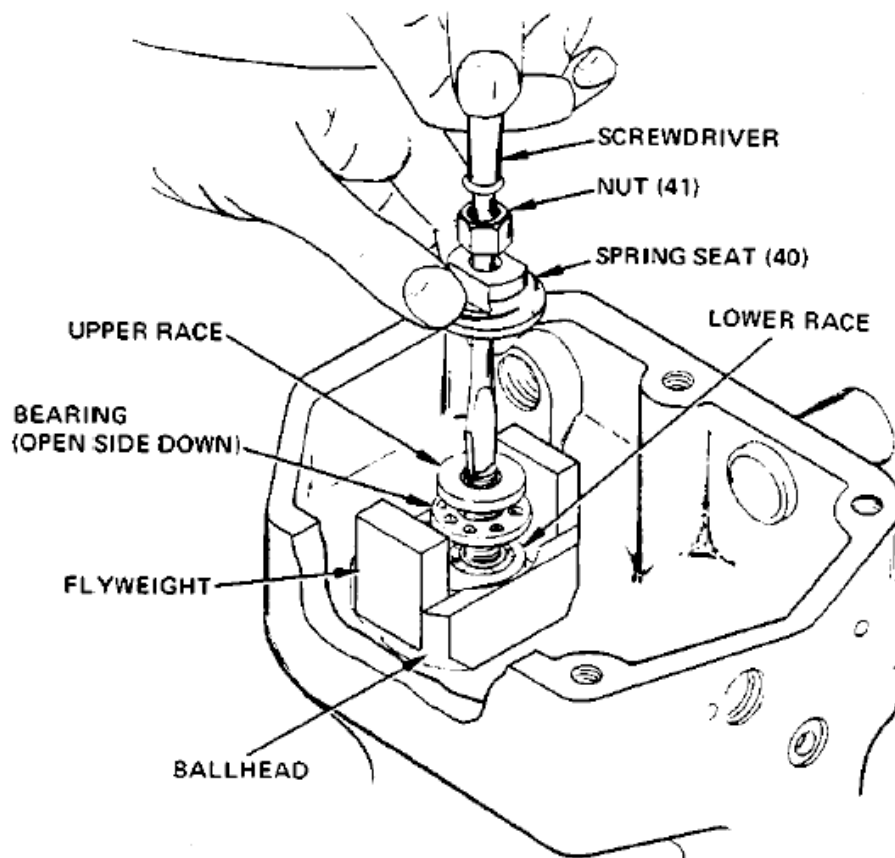
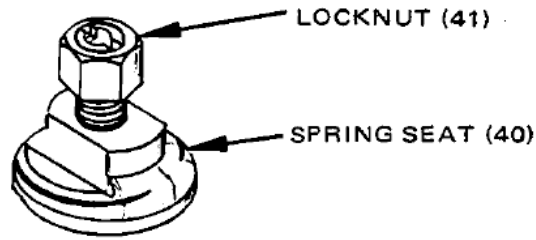

Figure 3-19. Thrust Bearing and Spring Seat Assembly
Figure 3-20. Spring Seat Adjustment
16. Use a screwdriver (Figure 3-19) and guide spring seat (40) and nut (41) onto pilot valve plunger. Hold the spring seat and nut, and turn plunger (31) COW threading seat (40) and nut (41) on until the nut is just below the top of the plunger, Figure 3-20.
17. Release nut (41) and continue turning plunger until spring seat (40) is bottomed.
When pilot valve plunger is centered, tighten nut (41, Figure 3-20) by torquing it to 70 lb-in (7.9 N·m).